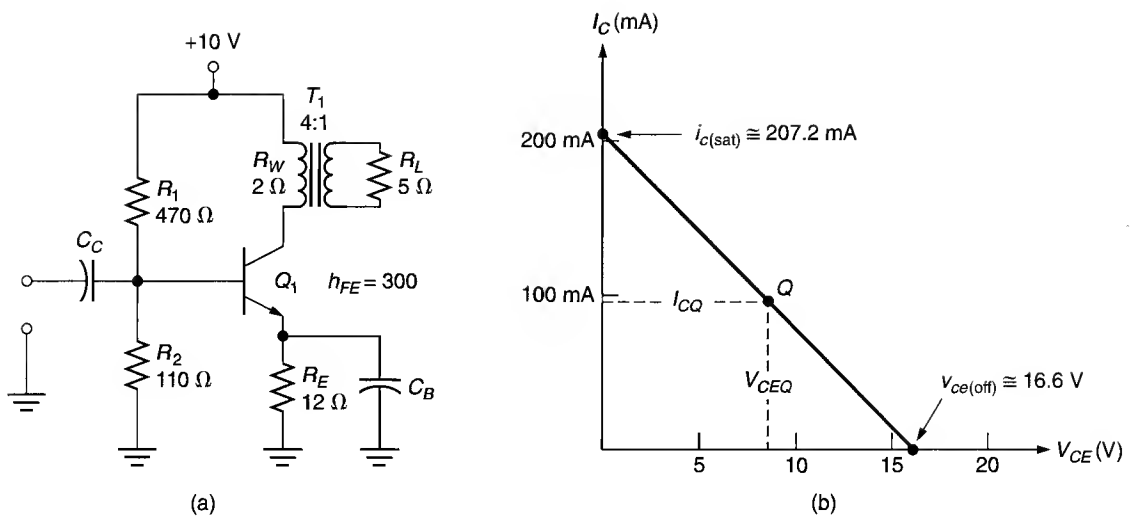

FIGURE 11.12 Transformer-coupled class A amplifier.
9. Using the circuit and graph in Figure 11.12, demonstrate that the dc load line for a transformer-coupled amplifier is nearly vertical. (*Hint: What is $V_{CE(off)}$ for the amplifier?*)